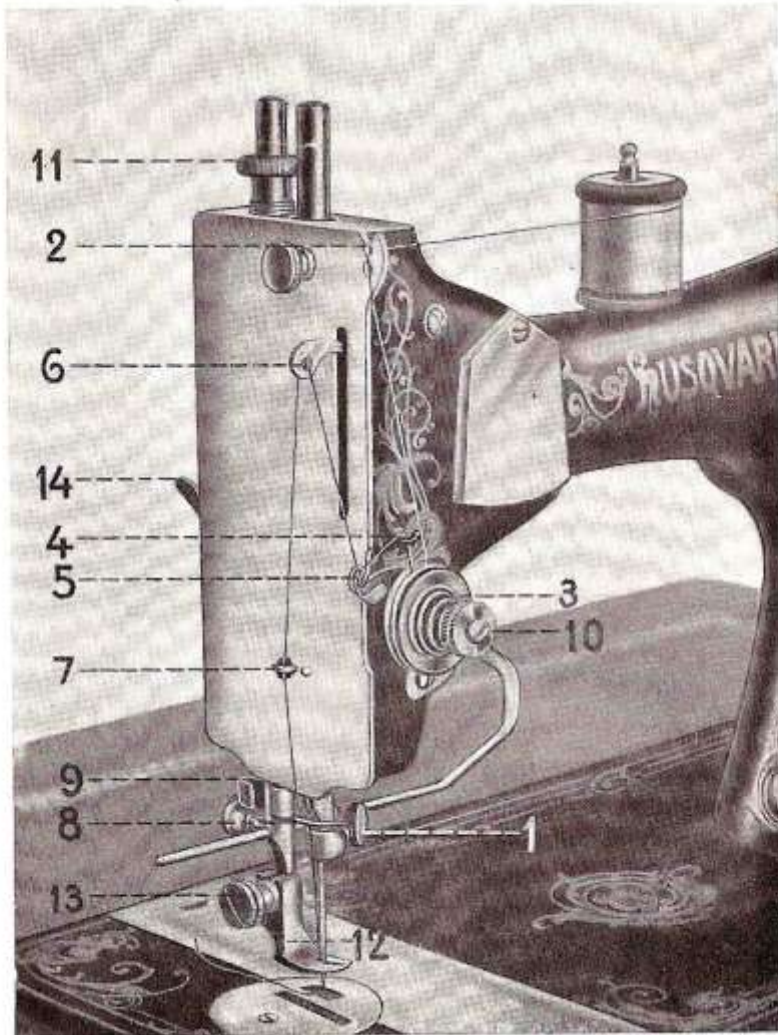

FIG. 3.
The presser foot is raised and lowered by means of the presser-foot lifter on the front part of the machine (fig. 3, No. 14).
(FIG. 3.)
When the work is finished and you wish to remove the material, raise the needle-bar to its highest position, lift the presser-foot and carefully pull the material out backwards to the left. Then bring both threads over the little thread cutter (9 in fig. 3) on the lower part of the presser-bar, whereby the threads are cut off so that no knife or scissors need be used for this purpose.
This is regulated by means of the tension disc nut (10), which is shown in fig. 3. By tightening the nut the tension is increased, by slackening it the tension is reduced.
than thin and soft ones. To regulate this pressure, make use of the presser-bar nut (11) shown in fig. 3. By turning this nut to the right the pressure is increased, by turning it to the left it is reduced.